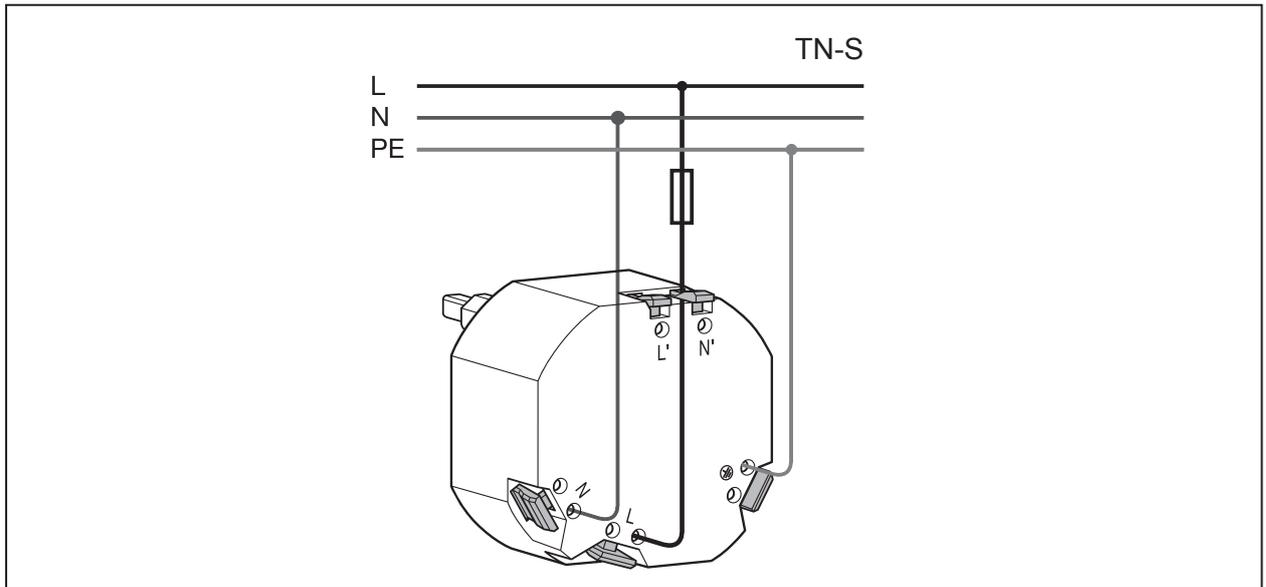

Figure 3
- Connect the residual-current circuit-breaker (see Figure 3, 4).